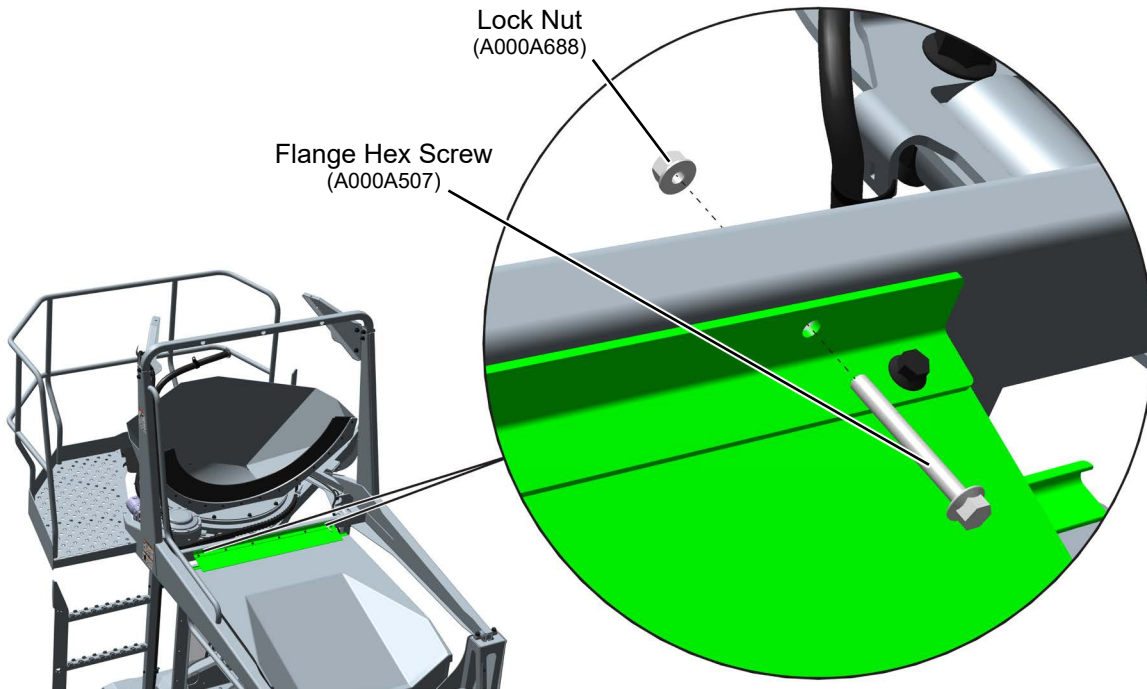

Figure 4. Deflector Installation
8. Secure deflector assembly to superstructure center support using 0.25-20 x 2.25" screws (A000A507) and lock nuts (A000A688). Final tighten hardware to 11 ft. lbs. See Figure 4.